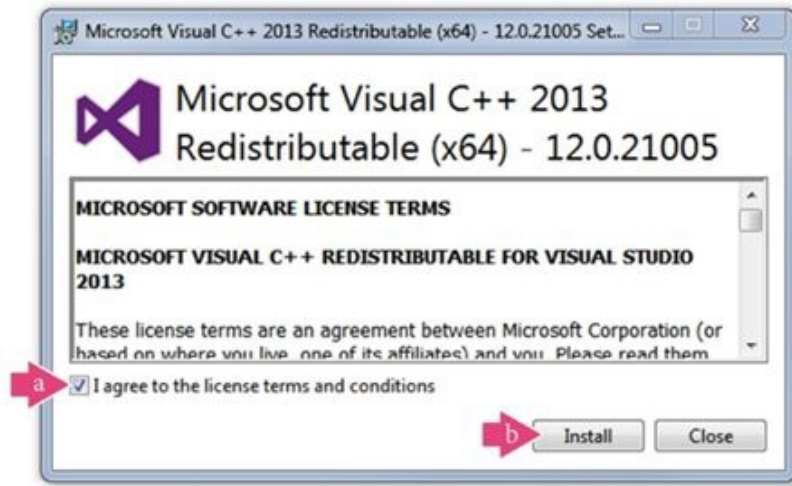

Figure 108
95. Some users may receive the following installation screen if Microsoft Visual C++ 2013 has never been installed on the computer. If received, follow the steps 102 and 103 to review the Microsoft Visual C ++ License terms. If you agree, check the box stating **I agree to the license terms and conditions (a)** and select **Install (b)**. If you do not receive the installation screen, you may proceed to step 97. See Figure 108.